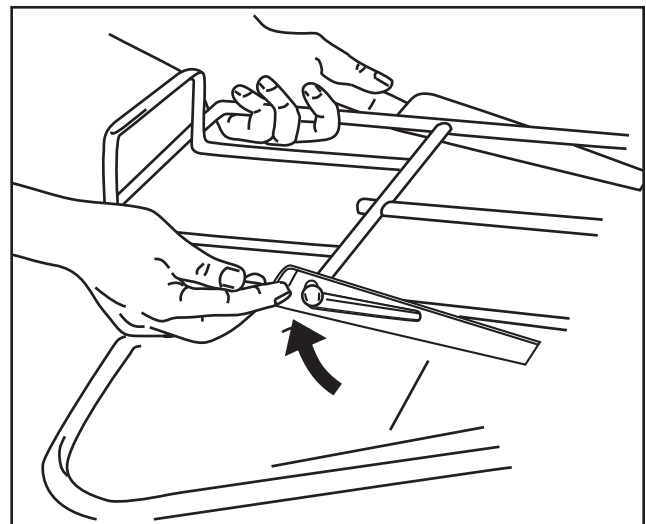

Figure 13 -Lowering the Shock Frame
- Always raise the shock frame from the foot end (Figure 13), never from the side.
1. Grasp the corners of the shock frame near the support bars (Figure 13) and lift to release, then lower the shock frame.